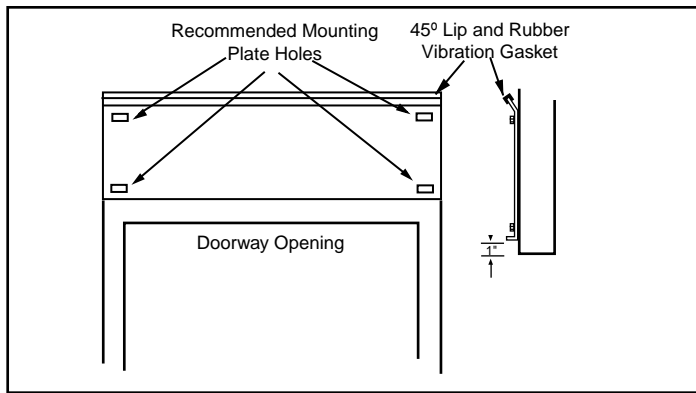

Figure 4
1. Position and center the mounting plate over the door opening. The mounting plate must be positioned with the 45° lip and the rubber vibration gasket on top. Drill mounting holes on the mounting plate. **See Figure 4.**